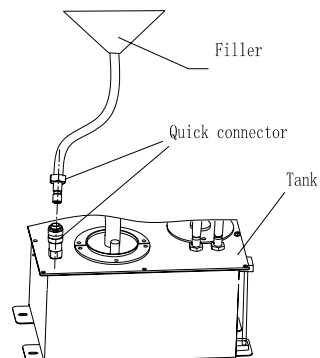

Fig 04
- 2) Check and fill the test liquid. Connect the quick connector of the filler assembly to the quick connector on top of the tank. Fill the test liquid through the filler and observe the liquid level in the fuel level viewer. In most cases, filled the liquid up to 1/2 of the tank capacity. See Fig. 04.